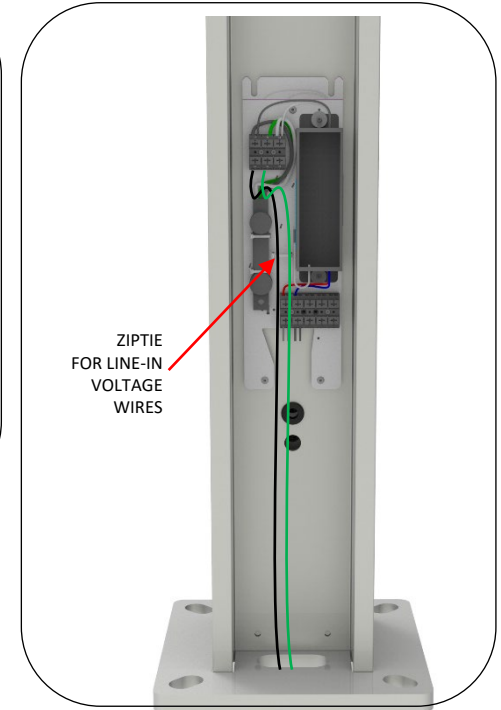

Fig. 4 – line-in voltage wiring location
3. Connect line-in wiring to terminal block as marked. Run wiring snugly inside unit and secure with zip-tie, see Fig. 4.